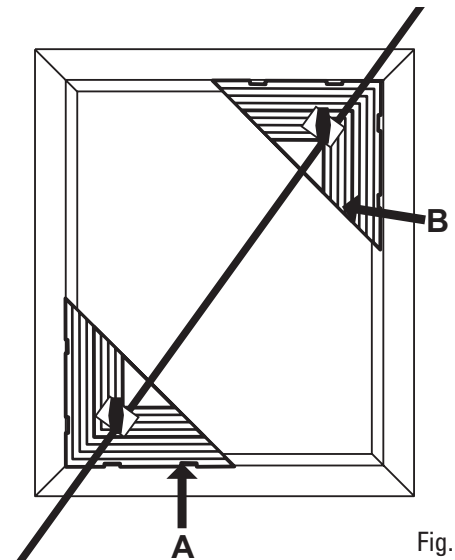

Fig. 4
**Step 2** - Slide Triangle B into the upper right hand corner of the frame making sure that it also fits snugly into place. Tighten knob until secure. (Fig. 4).